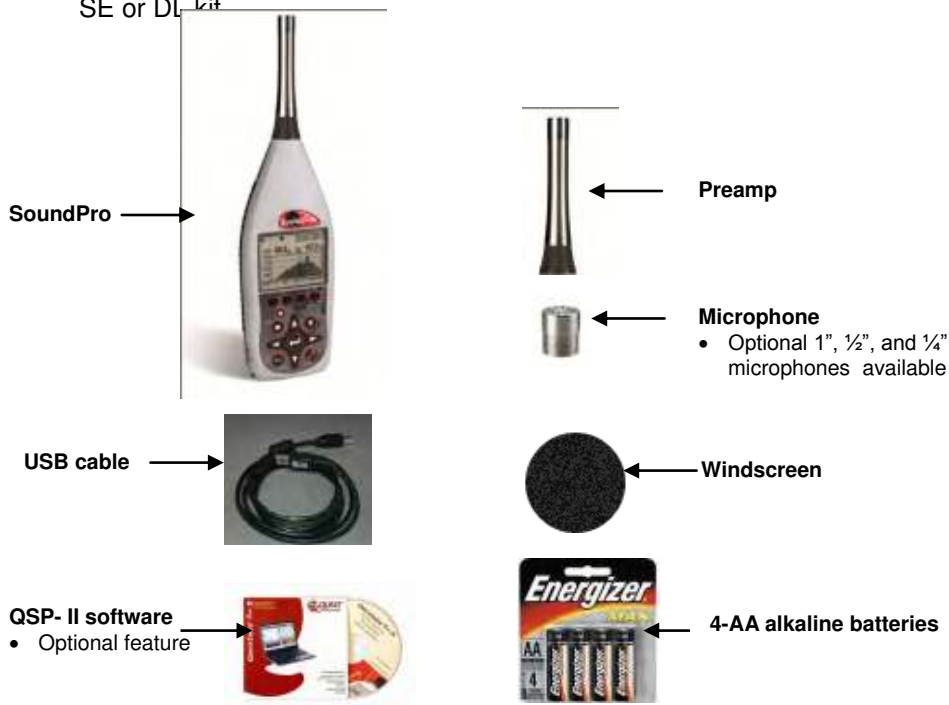

Figure 2-1: Identify SoundPro equipment
1. With the back of the instrument facing up, push the release latch to pop open the battery lid (Figure 2-1).